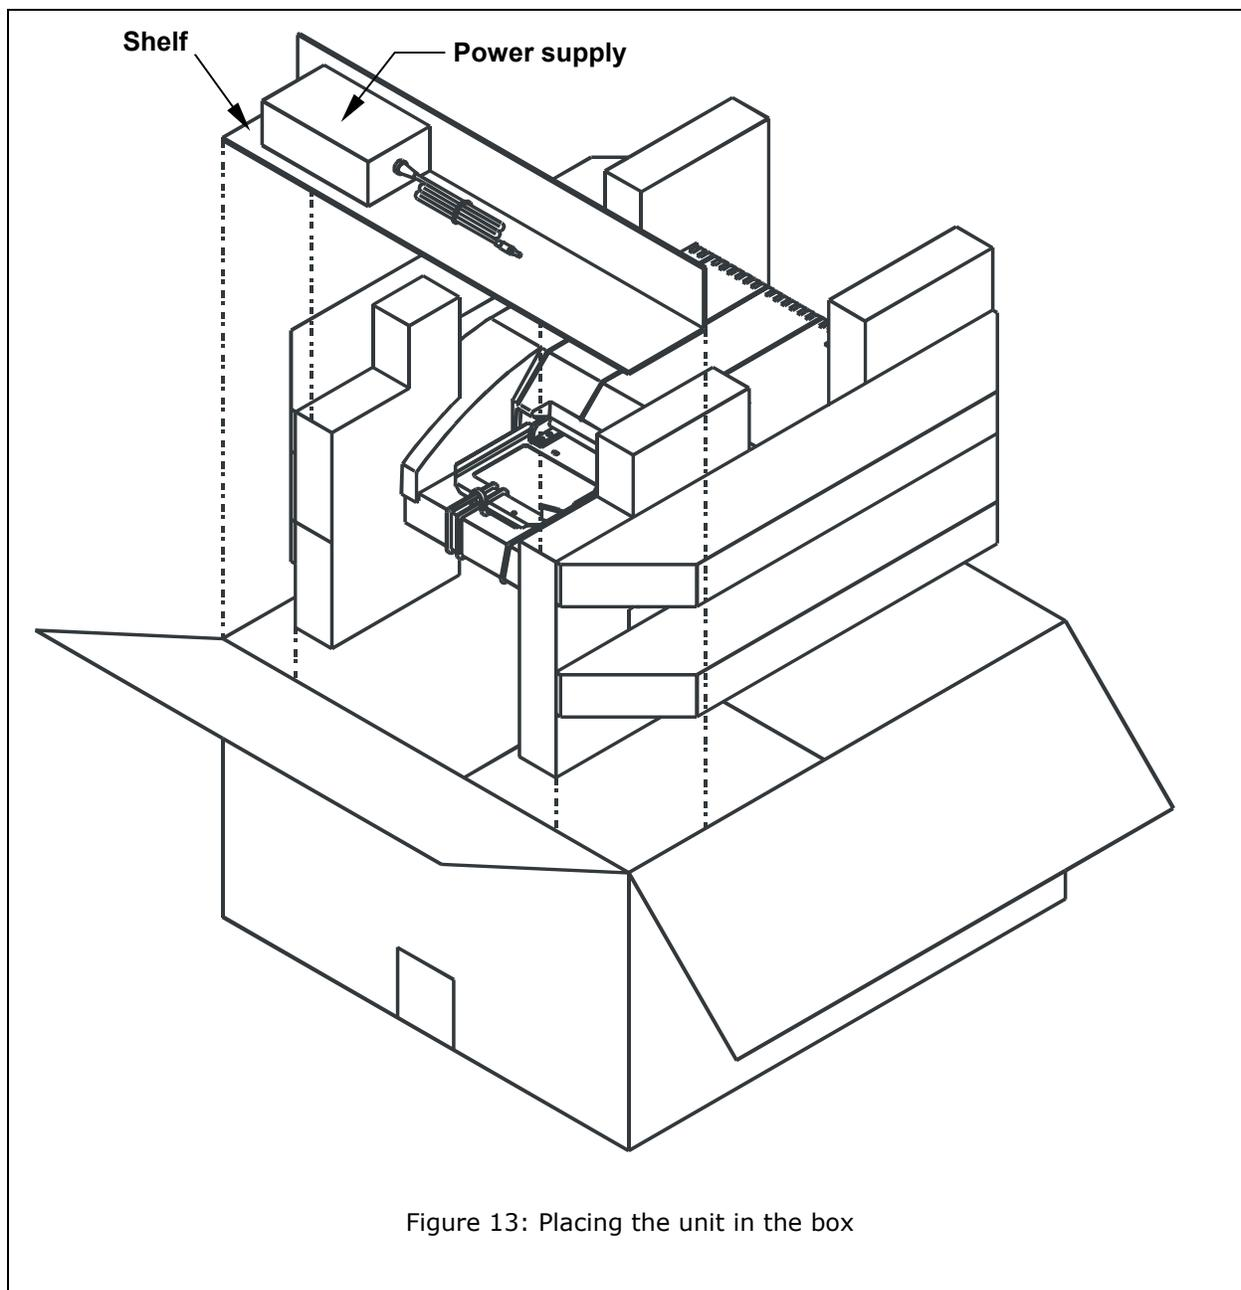

Figure 13: Placing the unit in the box
10. Place the instrument with the end caps into the box (**Figure 13**).
11. Place the shelf into the notched-out area in the end cap, and the power supply into an 8" x 11 1/2" bubble bag. Place the power supply on the shelf. (Figure 13).